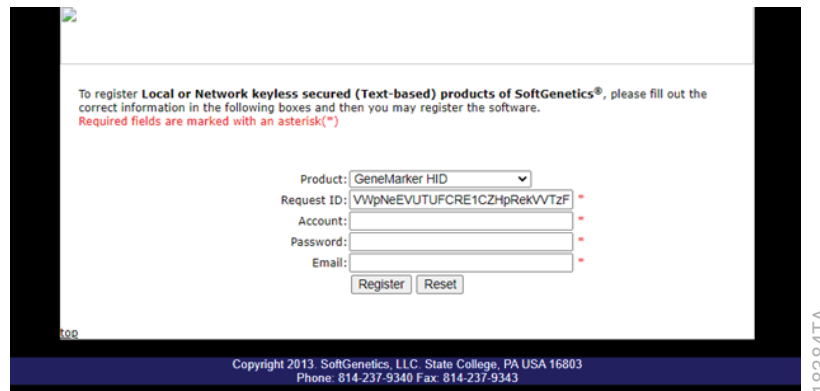
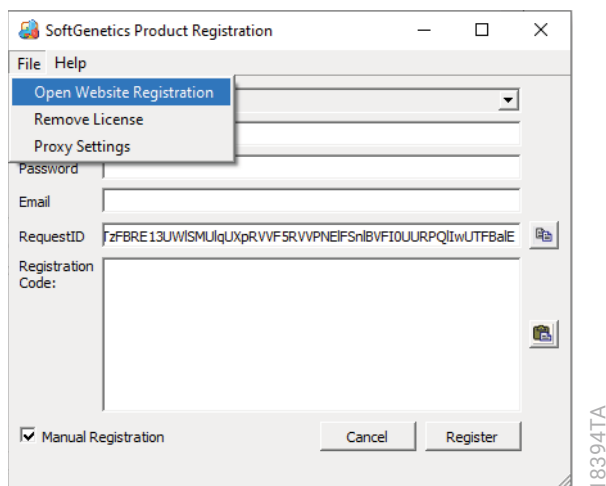

Figure 39. The Website Registration form.
Figure 40. Accessing Website Registration from the 'SoftGenetics Product Registration' window.
1. If the computer does not have an internet connection, select the Copy button to the right of the ‘RequestID’ field. Then, from a computer with internet connection, navigate to the website: https://softgenetics.com/releasereg/ng_register.jsp to access the Website Registration form (Figure 39).
Alternatively, if the computer does have an internet connection, select **Open Website Registration** from the File menu of the 'SoftGenetics Product Registration' window (Figure 40) to open the Website Registration form in an internet browser (Figure 39).